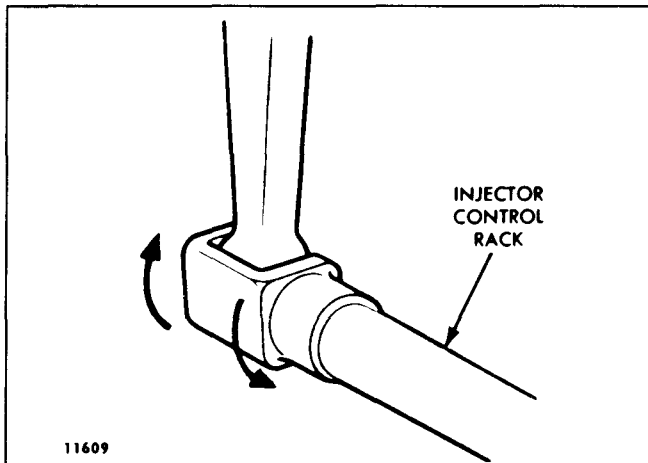
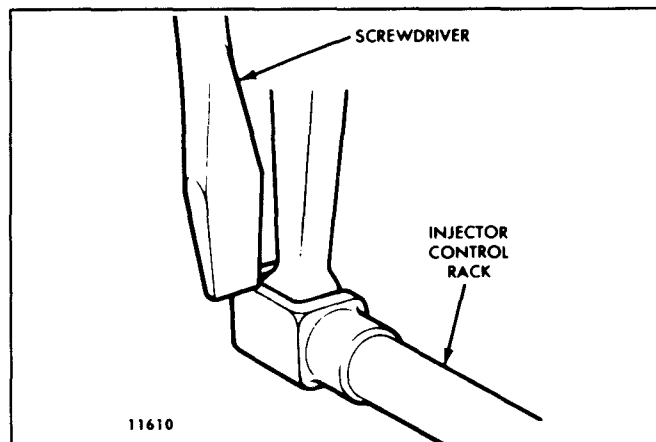

Fig. 3 – Checking Rotating Movement of Injector Control Rack
Fig. 4 – Checking Injector Rack "Spring"
6. To be sure of the proper rack adjustment, hold the speed control lever in the *full-fuel* position and press down on the injector rack with a screwdriver or finger tip and note the "rotating" movement of the injector control rack when the speed control lever is in the maximum speed position (Fig. 3). Hold the speed control lever in the maximum speed position and, using a screwdriver, press downward on the injector control rack. The rack should tilt downward and when the pressure of the screwdriver is released, the control rack should "spring" back upward (Fig. 4).